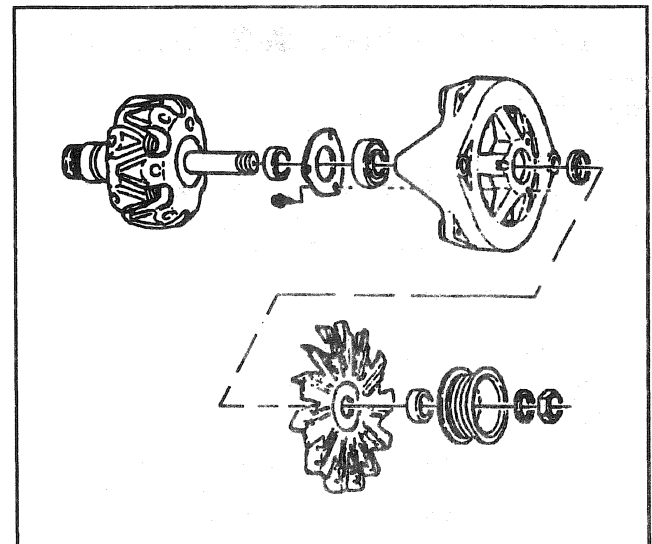

Figure 7—Drive End Frame Components
6. Three screws and the retainer from the drive end frame (Figure 7).